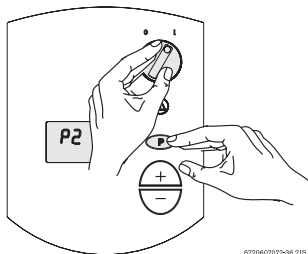

Fig. 41
- ▶ While holding the Program (P) button, turn the ON/OFF switch to ON (I) position (see Fig. 41). As soon as '188' flashes on the display, release the Program button. The display should now read P2. Press  $\oplus$  button until "P1" appears on display.